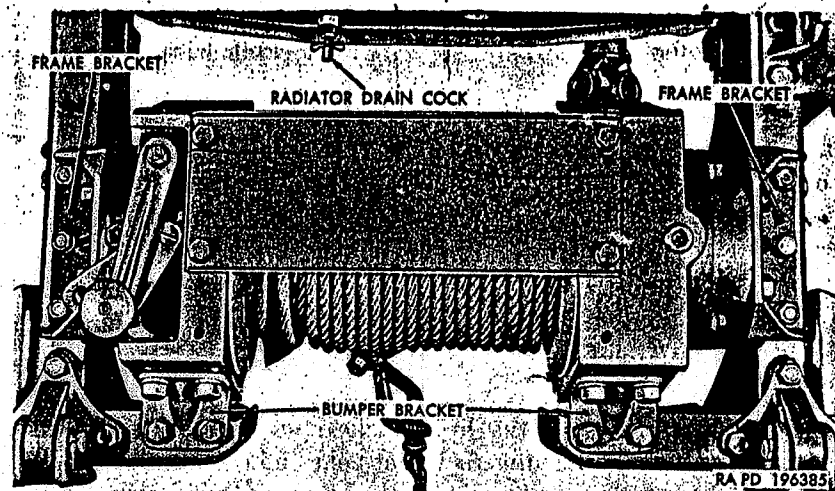

Figure 152. Winch—top view.
- (1) The winch (fig. 152), on vehicles so equipped, is mounted at the front of the vehicle and is supported by brackets attached to the frame side rails and the front bumpers. The drive shaft has a universal joint at each end, with a shearpin in the front universal joint which prevents damage to the driving mechanism in the event the winch is overloaded. A safety brake is provided to hold a load in any desired position or in the event the shearpin breaks.
- (2) Organizational maintenance includes adjustment of the safety brake, replacement of the cable, the drive shaft universal joints and shearpin, and the winch.
- (1) Disconnect the winch drive shaft (par. 181a).
- (2) Remove the four bolts and lockwashers that secure the winch to bumper brackets (fig. 152) and to the front bumpers.
- (3) Remove the six bolts and lockwashers that secure the winch to frame brackets to the frame side rails, and remove the winch.
- (4) Remove the two bolts and lockwashers that secure each bumper bracket, and remove the brackets. Remove the four nuts and lockwashers that secure each frame bracket and remove the brackets.